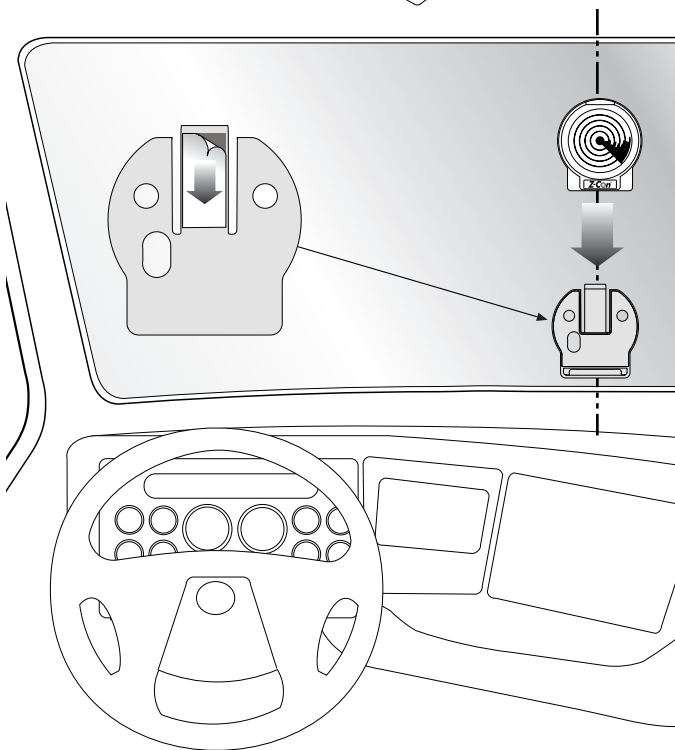

Fig. 13-1
- 4) Remove the backing from the peel-and-stick (see Fig. 13-1 or 13-2). Press and hold mounting position for 10 seconds to assure good adhesion.